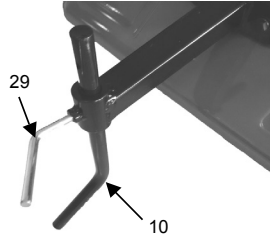

Figure 6
4. Refer to Figure 6 to install the resistance rod